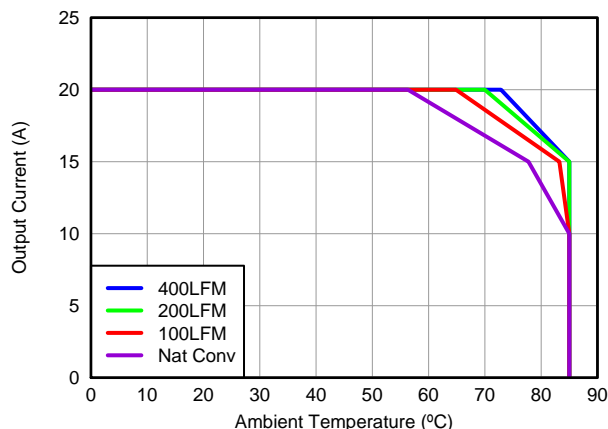

Figure 3. Safe Operating Area – PCB Vertical Mount(1)
The SOA curves in the CSD87330Q3D data sheet provides guidance on the temperature boundaries within an operating system by incorporating the thermal resistance and system power loss. Figure 3 to Figure 5 outline the temperature and airflow conditions required for a given load current. The area under the curve dictates the safe operating area. All the curves are based on measurements made on a PCB design with dimensions of 4" (W) × 3.5" (L) × 0.062" (T) and 6 copper layers of 1 oz. copper thickness.